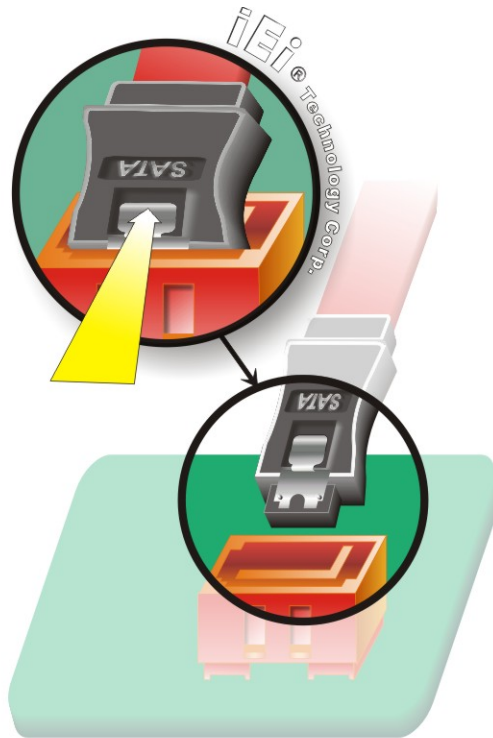

Figure 5-12: SATA Drive Cable Connection
Step 2: Insert the cable connector. Press the clip on the connector at the end of the SATA cable and insert the cable connector into the onboard SATA drive connector. See **Figure 5-12**.